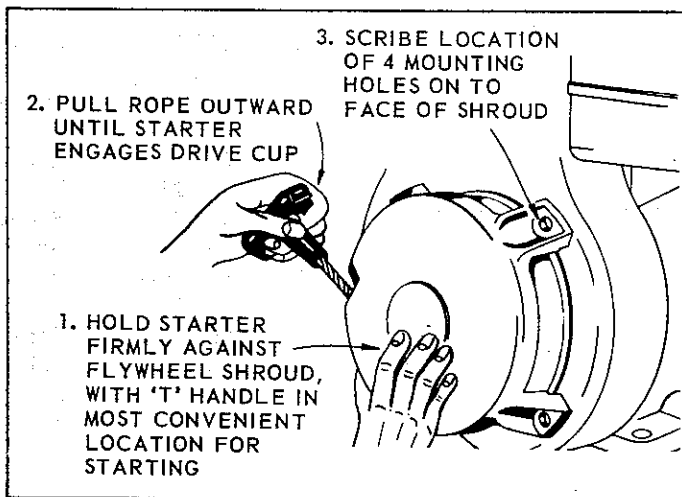

FIG. 3
1. With reference to *Fig. 3*, place starter over drive cup and hold unit firmly against the shroud, with the 'T' starting handle located in the most convenient position.